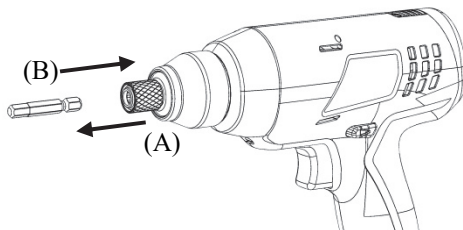

Fig.4
1. Pull out the sleeve as the Fig.4 (A)
2. Insert the bit into the hex. shank as Fig.4 (B), release the sleeve to fix the bit.